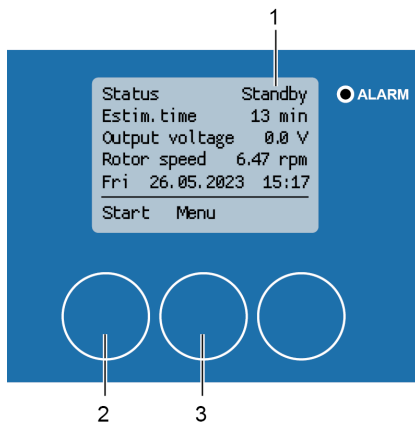

Fig. 164: Cleaning process start screen
⇒ After the cleaning carriage has reached its starting position on the rotor circumference, the cleaning process is complete. The status indication switches to “Standby” (Fig. 164//1).
2. Press [Start] (Fig. 164/2) to start the cleaning process again or [Menu] (Fig. 164/3) to open the “1 Main menu” menu.